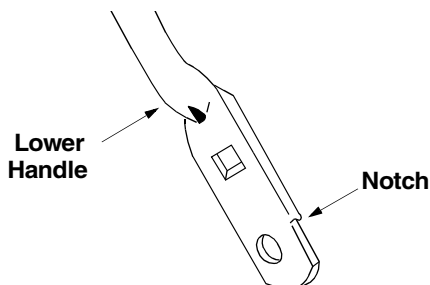

Figure 12
- Turn the lower handle around so the notches on the bottom of the lower handle are facing forward as shown in Figure 12. Reassemble, placing the bottom holes in the handle over the weld pins in the handle mounting bracket. Reattach hardware.